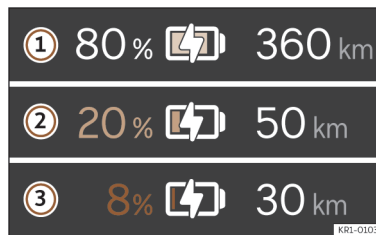

Fig. 2 On the digital instrument cluster: range and reserve indication.
The current state of charge of the high-voltage battery is indicated by the symbol  on the digital instrument cluster >>> **Fig. 2 ①**. The battery symbol will be more or less full depending on the state of charge of the battery.
The vehicle range is displayed in kilometres (km) or miles (mi) depending on the selected setting >>> **Fig. 2 ②**.
Reserve area >>> Fig. 2